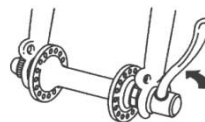

fig. 12 QR Closed Position
- (1) Open up the brake shoes.
- (2) Rotate the wheel's quick-release lever from the locked or CLOSED position to the OPEN position (Fig.12 & 13).
- (3) If your front fork does not have a secondary retention device, go to step 5.
(2) With the steering fork facing forward, insert the wheel between the fork blades so that the axle sits firmly at the top of the slots that are at the tips of the fork blades - the fork dropouts. The quick release lever should be on the left side of the bicycle (Fig. 12 & 13). If your bike has a clip-on type secondary retention device, engage it.